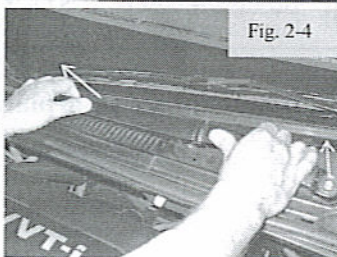

Fig. 2-4
- ⚠ (1) Slightly lift hinged end of wiper arm and slightly wiggle wiper at mounting stud to remove. (Fig. 2-4)